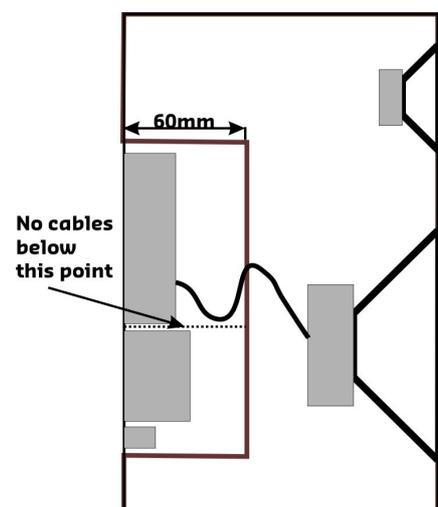

Figure 13
2. Keep at least 60mm between the module front plate and the back of the enclosure, see **Figure 13**.
3. Do not lead any single insulated speaker-cable below the indicated line in **Figure 13**. With double insulated cable you are allowed to lead the cables below this line.